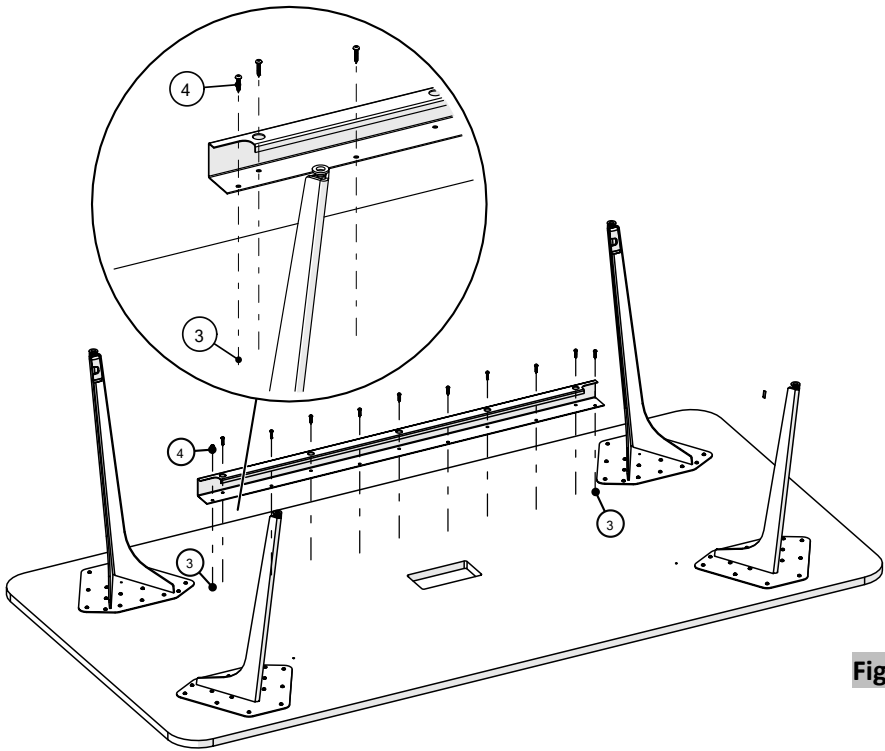

Figure 3
- Place and install the table support beam using #10 x 1" Pan Head Screws, RB2, (Figure 3).